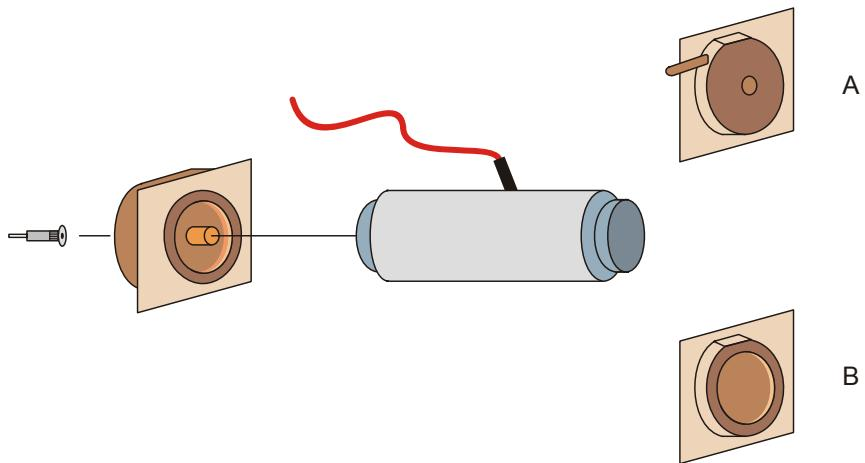

Fig. 6 Assembly of ionisation chamber (A for low pressure, B for normal atmospheric pressure)
- Assemble the ionisation chamber as in Fig. 6.